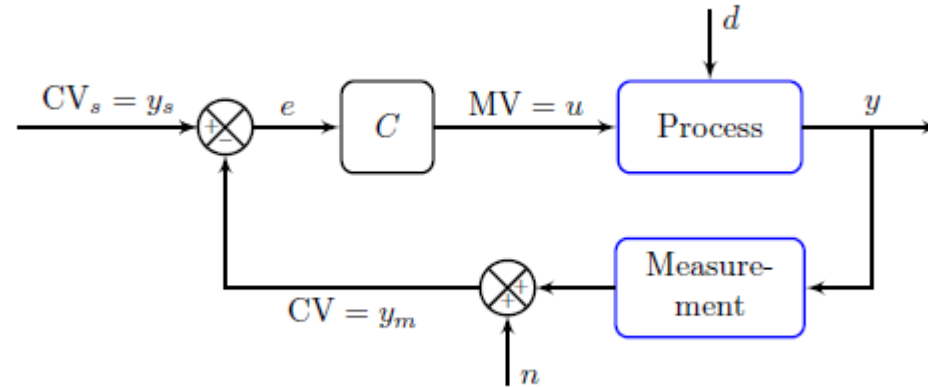

Figure 3: Block diagram of common “one degree-of-freedom” negative feedback control system.
**Feedback solution.** We use a one degree-of-freedom feedback controller (Fig. 3) acting on the error signal  $e = y_s - y$ :